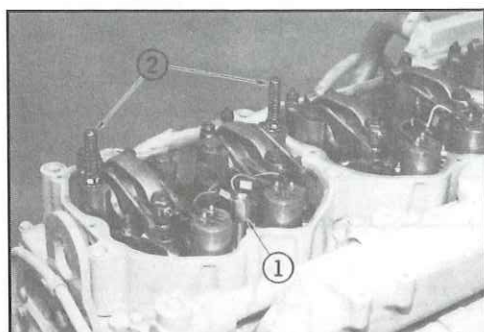

Fig. 13
Install the cylinder head bolt spacers (1) on the cylinder head bolts and torque to 65 lbft. (88 N·m). See Fig. 13.
Remove the rocker lever bolts at the six locations next to the exhaust rocker levers. Install the mounting stud assemblies (2) and torque to 70 lbft. (95 N·m). See Fig. 13.